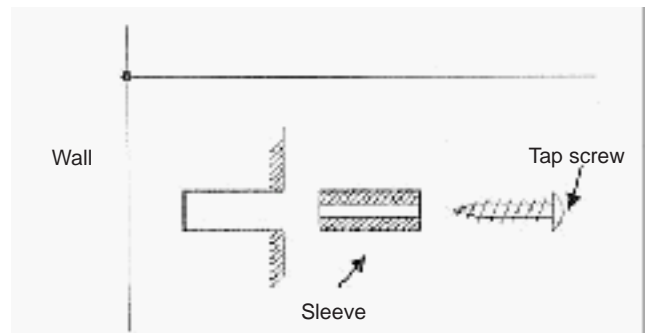

Figure 3
3. Use the self Screws supplied in the kit. For soft or concrete walls drill pilot holes and applies sleaze according to figure 3.